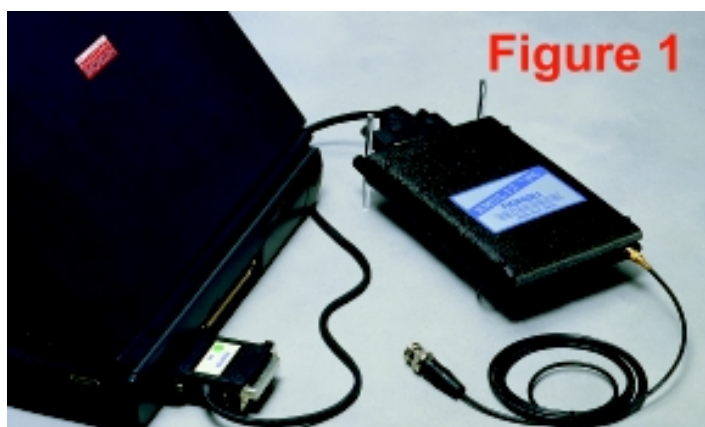
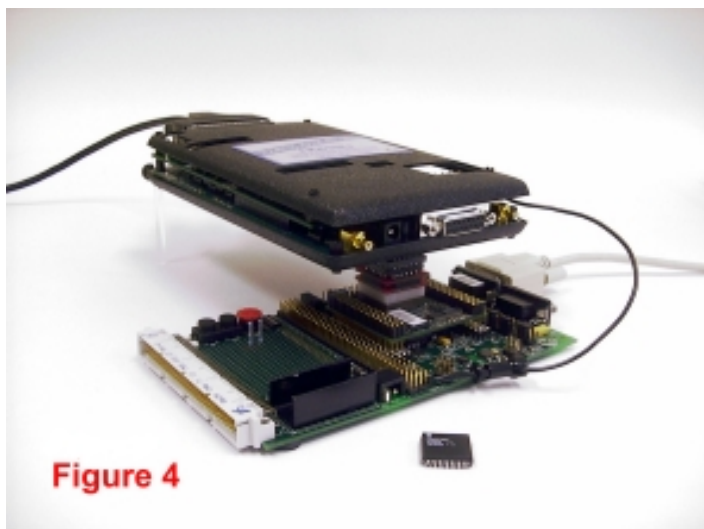

Figure 1
Figure 4
debugging tool designed to run user code either stand-alone or connected to a user target system. The emulator is a handheld portable device and is shown in Figure 1.
This system can be run stand-alone as pictured in Figure 1 or with the emulator connected as in Figure 4 to offer greater debugging, testing and confirmation power. This is accomplished by removing the C37 controller and plugging the emulator into the now empty PLCC socket and powering the emulator.
Connect the emulator as shown in Figure 4. Power the emulator with the Phytec board connected. The green LED D6 beside the Phytec regulator chip will illuminate indicating power from the emulator. Start Seehau from your PC.
The photo in Figure 4 shows several black PGA extender adapters between the emulator and the PLCC plug. This was done for clarity. In practice all the extenders should be removed to improve high frequency operation. It is important to have all leads as short as possible, especially the clock signals, in adherence to good engineering practice.
- 6) Make sure the ground clip is connected to the target as shown in Figure 4.